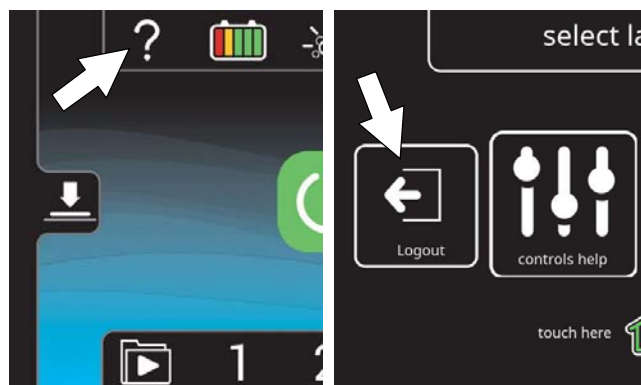

FIG. 182
7. When the user is done operating the machine, it is recommended the user log out by pressing the help button, and then pressing the logout button (Figure 182). Turning the key to the off position is another way to also logout